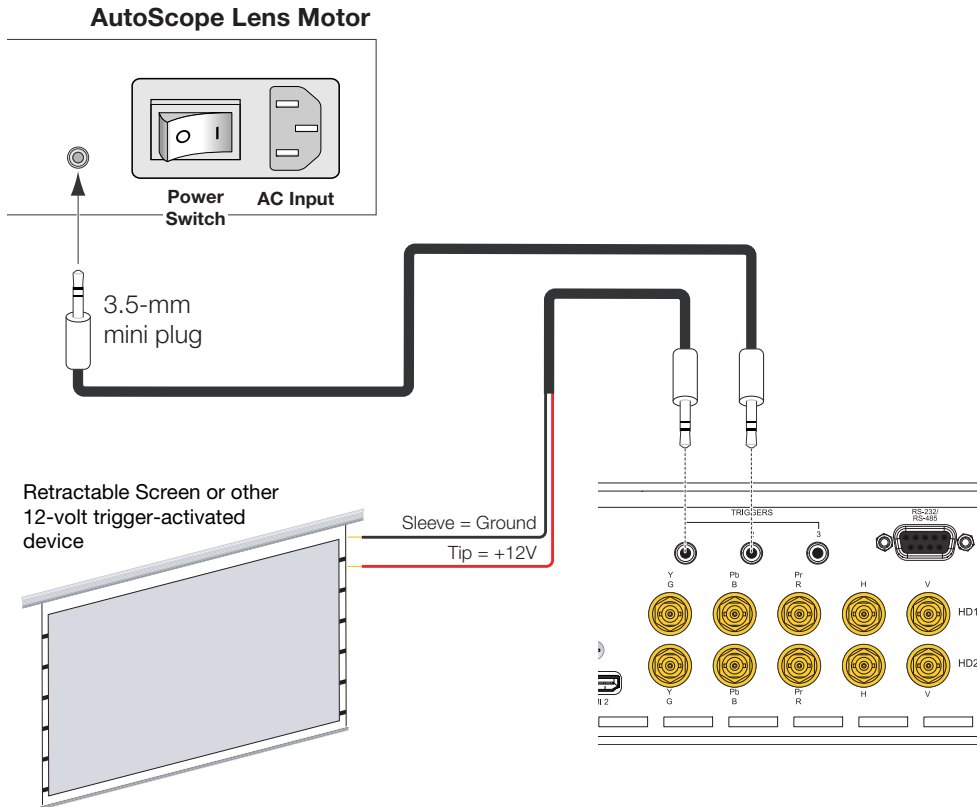

Figure 3-16. Connecting 12-volt Trigger Outputs
If your VX-44d/-55d is equipped with a CineWide with AutoScope system, connect the AutoScope lens motor to a 12-volt trigger output on the DHD Controller; see Figure 3-16.
3. If this is an AutoScope-equipped projector, turn on the main power switch at the rear of the AutoScope lens motor. The lens motor power switch is located next to the AC input (see Figure 3-16).